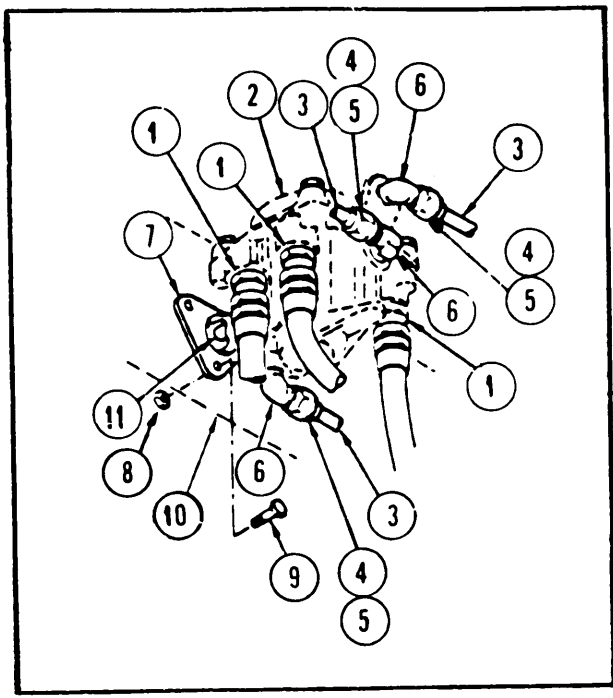
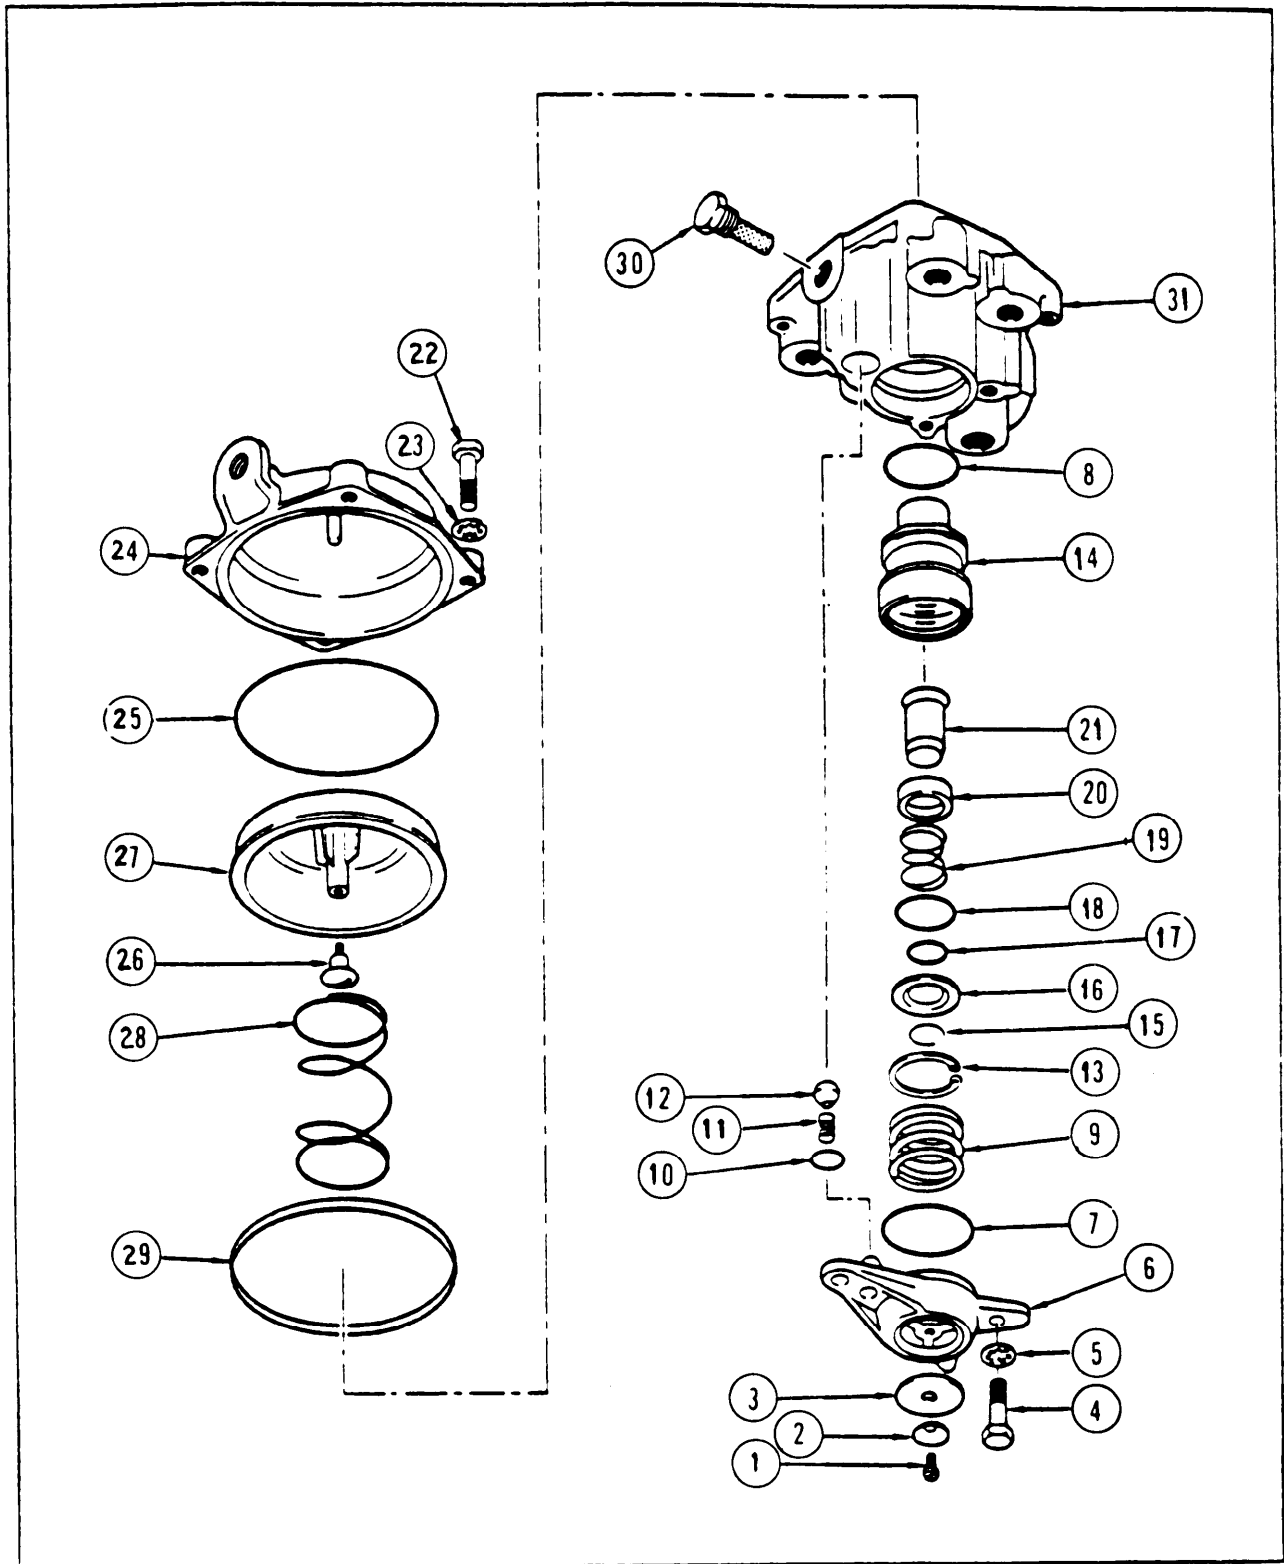

Figure 2-36. Trailer Relay Valve and Adapter Assembly (ARMY)
Figure 2-37. Trailer Brake Relay Valve and Adapter (ARMY)
2-39. TRAILER BRAKE RELAY VALVE AND ADAPTER. (Figure 2-36) (ARMY)
b. Disassembly. (Figure 2-37)
- (1) Place relay valve on a clean dry workbench.
- (2) Remove screw (1), diaphragm washer (2), and diaphragm (3).
d. Assembly. (Figure 2-37)
- (1) Place relay valve body, with large opening up, on clean dry workbench.
- (2) Install filter (30) in body (31).
- (3) Install sealing ring (29) and piston return spring (28) in body (31).
- (4) Assemble relay piston assembly by installing exhaust valve seat (26) in relay piston (27).
- (5) Install relay piston assembly over piston return spring (28) and into body (31).
- (6) Install O-ring (25), then position cover (24) to body (31) and secure with washers (23) and screws (22).
- (7) Turn valve body over and install O-ring (10), spring (11), and ball (12) in body (31).
- (8) Assemble inlet and exhaust valve assembly by installing valve retainer (20), valve spring (19), O-rings (18) and (17), and valve guide (16) on inlet and exhaust valve (21), then install retaining ring (15) to secure.
- (9) Install the inlet and exhaust valve assembly in emergency piston (14), then install retaining ring (13) to secure.
- (10) Install emergency spring (9).
- (11) Place O-rings (7) and (8) on exhaust cover (6).
- (12) Position exhaust cover (6) on body (31) and install washers (5) and screws (4).
- (13) Install diaphragm (3), diaphragm washer (2), and screw (1).
e. Installation. (Figure 2-36)
- (1) Install plug (11) in valve adapter (7).
- (2) Position valve adapter (7) to trailer frame (1 O) and attach with screws (9) and nuts (8).
- (3) Install relay valve (2) in valve adapter (7).
- (4) Install elbows (6) in relay valve (2), then connect tubing (3) to relay valve (2) with nuts (4) and sleeves (5).
- (5) Connect hose assemblies (1) to relay valve (2).